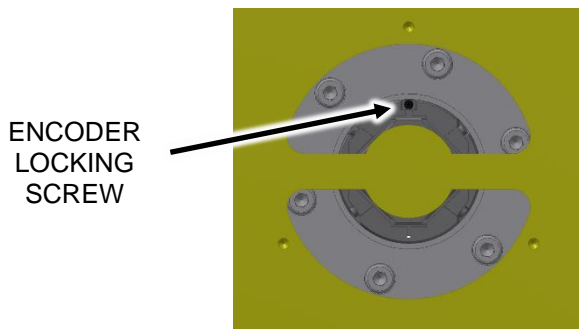

Figure 17
2. Rotate the machine so that the encoder locking screw is visible from the access port on the encoder mounting plate, as shown in Figure 17.